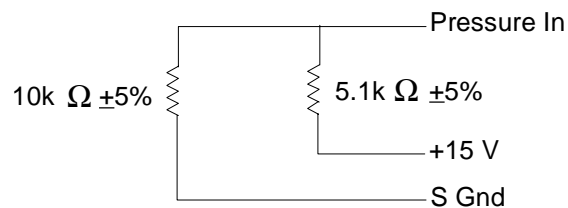

Figure 8: Configuration of Two Resistors
7. Troubleshoot the signal path in the PDR-D unit by disconnecting the pressure transducer and replacing it with two resistors connected in the manner shown in Figure 8.